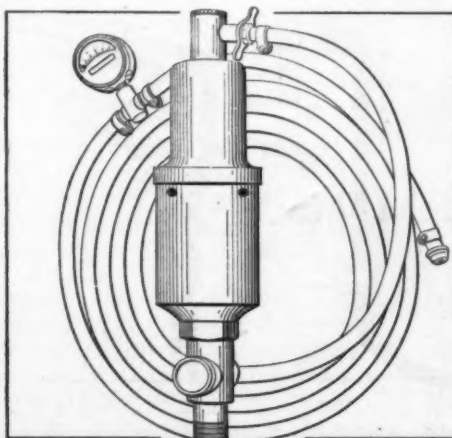

Fig. 2—Brown impulse tire pump
1. The wheel (Fig. 2) comprises a hub and felloe having apertures, the outer tire-carrying rim being provided on its inner side with a series of cups having central studs or posts. Tubular springs are seated at their outer ends in the cups with the studs entering their bores, while the inner ends of the springs are fitted with centrally apertured cups. Through these and the apertures of the wheel felloe radial bolts extend into the bores of the springs, the bolts being secured by nuts at inner and outer faces of the felloe as well as against the outer face of the apertured cup. The end of the bolts and rim studs or posts are spaced apart and disconnected to allow the springs to yield laterally as well as longitudinally.
Pure air is pumped into tires inflated by means of the Brown Impulse tire pump (Fig. 2), which is driven by the compression in one cylinder of the motor, a spark plug being removed to allow screwing the end of the pump into the valve cap. The pump is furnished with such interchangeable nipples of A. L. A. M. standard which permit of attaching it to any gasoline